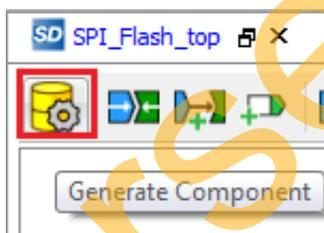

Figure 14 • Generate Component
2. From the **SPI_Flash_top** tab, click **Generate Component**, as shown in **Figure 14**.